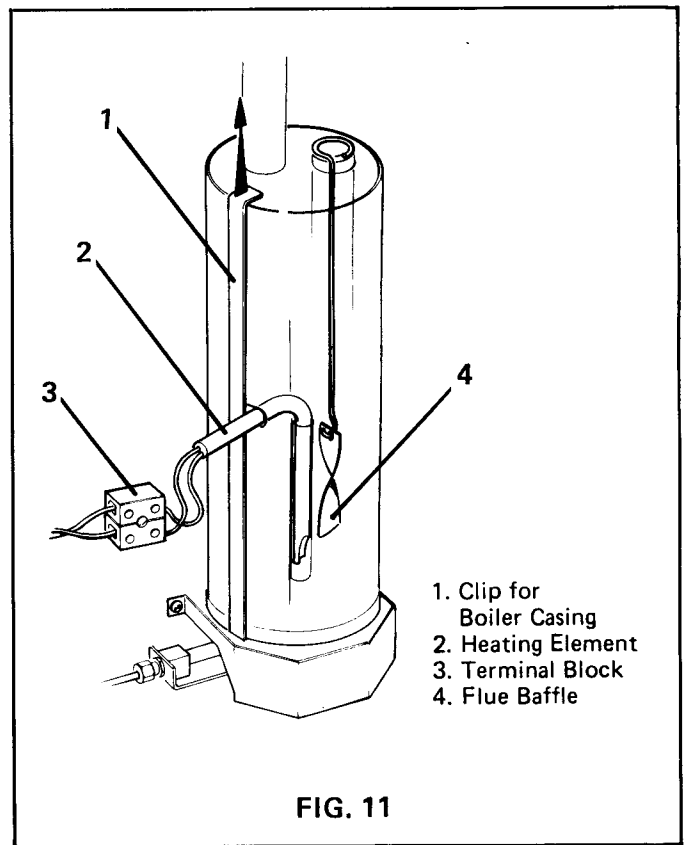

FIG. 11
The flue baffle (4, fig.11) must be in position in the central tube of the boiler, suspended on its support wire so that the lower end of the baffle is 75 mm (3 inch) above the bottom of the central tube, over the burner. The top end of the baffle support wire is bent into the shape of an "O", and rests horizontally on the top of the central tube. The baffle is correctly positioned during manufacture and should not become displaced during normal use. If the flue baffle is missing or is incorrectly located, the cooling unit will not operate properly on gas. Any strapping tape used to retain the baffle support wire to the top of the boiler casing during transit should be removed before installation.
12. 12V ELECTRICAL INSTALLATION (See figs. 11, 12, 12a, and 12b)
For operation on 12V, the boiler of the cooling unit is fitted with an 85 watt heating element (2, fig.11) connected to a terminal block (3) attached to the back of the refrigerator. Before installing the refrigerator, the wiring for the 12V supply should be connected to the terminal block, leaving enough slack for subsequent insertion and withdrawal of the refrigerator for servicing purposes.
For operation on 12V, the boiler of the cooling unit is fitted with an 85 watt heating element (2, fig.11), connected to a two-way terminal block (3) at the back of the refrigerator. 12V operation is not thermostatically controlled therefore the cooling unit will operate all the time the refrigerator is connected to the 12V supply. (As 12V operation is intended for use only while the caravan is on tow, over-cooling is unlikely because of the comparatively short time involved. If overcooling does occur during extended towing periods, the refrigerator may be disconnected periodically as experience proves necessary).
27. FLUE BAFFLE (4, fig.11)
1. Lift out the flue baffle on its support wire from top of boiler central tube (see fig.11).